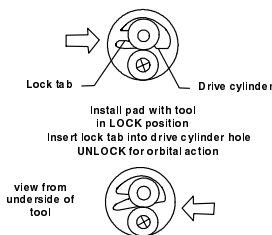

Figure 1
1. For pad installation, have the lock tab in the lock position (See Figure 1). For lock position, align hole in spindle with lock tab. Press lock tab into hole. Hand tighten the pad in a clockwise direction. After pad installation, unlock the lock tab for orbital action sanding (See Figure 1).